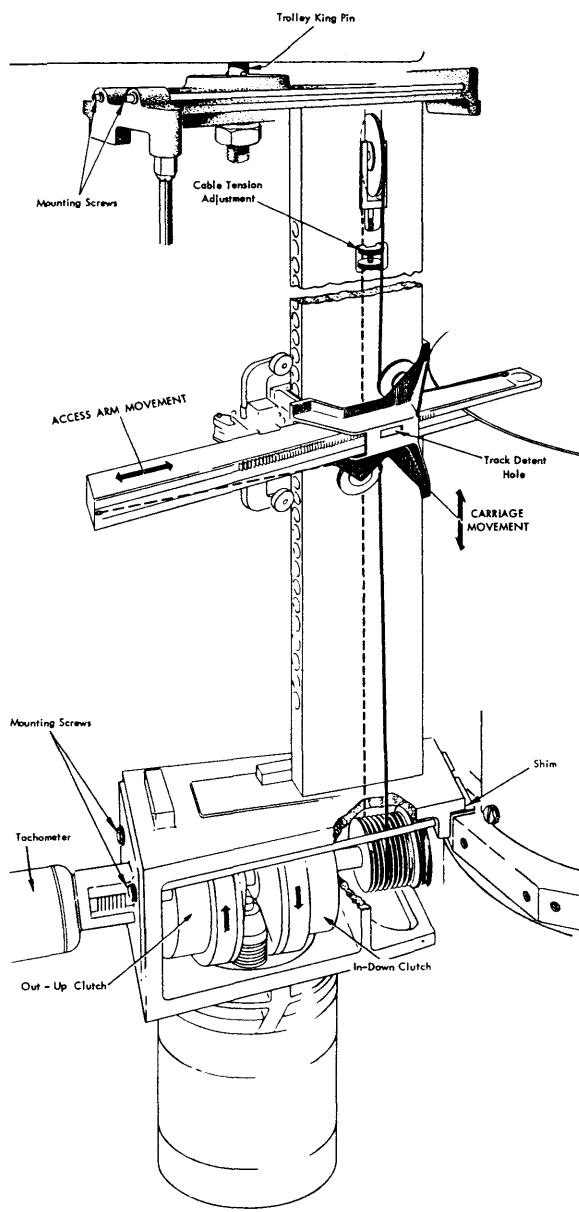

Figure 60. Access Mechanism
##### REMOVAL (FIGURE 60)
3. If a new access mechanism is being installed, it may be necessary to add or remove shims to position the mechanism for proper access arm to disk alignment (Figures 60 and 61). Shims can be peeled off in .003" sections if too thick.